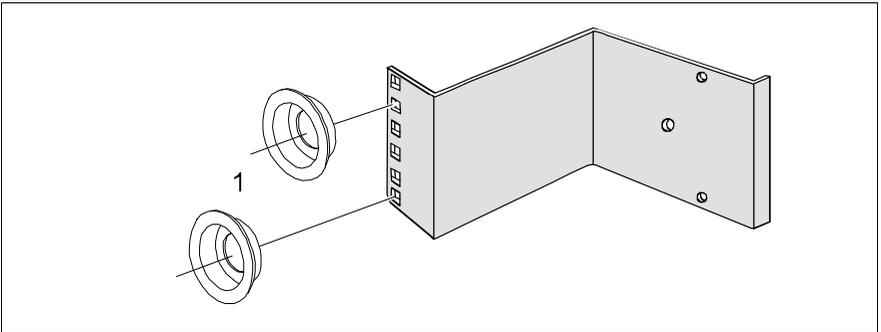

Figure 8: Mounting the plugwashers in the support bracket
- eight plugwashers (figure 8 on page 33)
To fasten the telescopic rails, no flange nuts are necessary since the assembly brackets are equipped with threaded holes. For adjustment in each case two plugwashers must be pre-mounted at the support uprights and the support bracket (see figure 8):
Note with the fact that two plugwashers each are used in the appropriate openings of the support uprights and/or the support bracket (see figure 8 on page 33).
- two plugwashers (figure 8 on page 33)
- ▶ Place the plugwashers at the marked attachment points in the corresponding holes of the support bracket (see figure 8 on page 33).
Note with the fact that the two plugwashers are inserted in the appropriate openings of the support bracket (see figure 8 on page 33).
- possibly eight plugwashers (figure 8 on page 33)